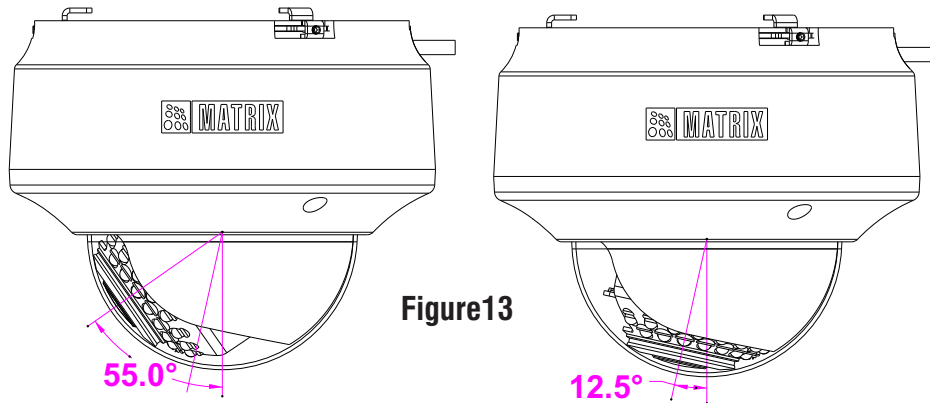

Figure13
- For **Tilt movement** you can move the camera from 12.5 to maximum 55 degrees. see **Figure:13**.